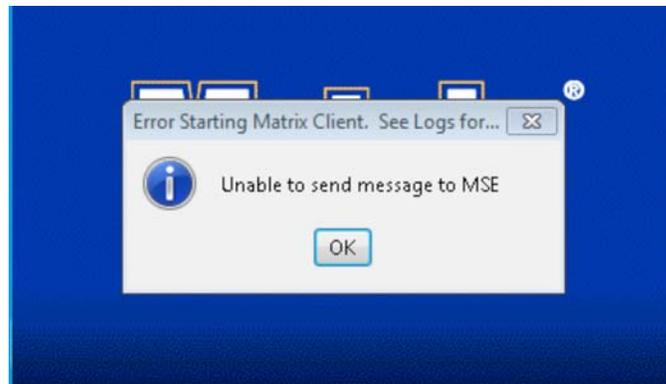

FIG. 244
17. Problem: What do I do when I see the below error When starting the Matrix application, I see the error message shown in FIG. 244.